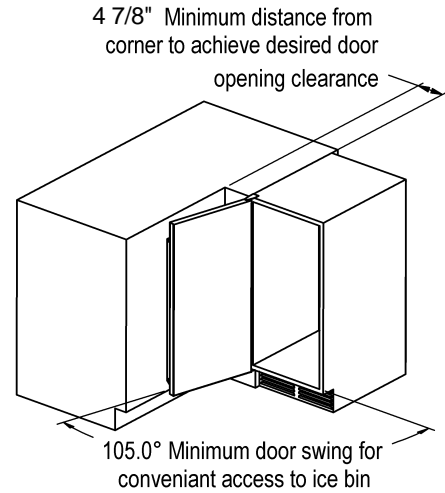

Fig. 5
- * Attach the brass fitting included in the accessory bag as shown in Fig. 5. The brass fitting size is a 1/2" FPT and must be connected only to a potable water supply.